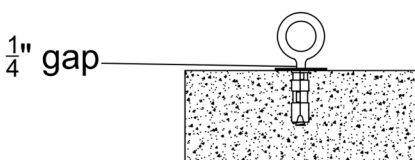

FIG. 4
**Step 9.** Hinge back enclosure to continue working. Drill 5/8” diameter hole 2 1/2” deep for eye bolt anchor. Tap anchor into hole with hammer. (See FIG. 4)